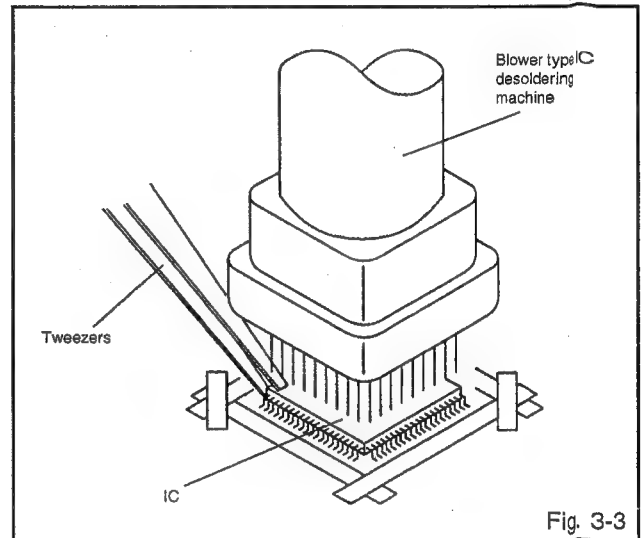

Fig. 3-3
3. When IC starts moving back and forth easily after desoldering completely, pickup the corner of the IC using a tweezers and remove the IC by moving with the IC desoldering machine. (Refer to Fig. 3-3.)